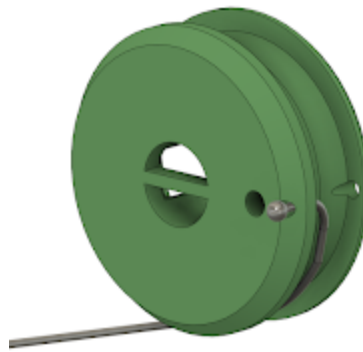

Figure 3.7: Connected string with String Spool (Green) loose end of string threaded through it and knotted.
9. Tie a knot on the loose end of the string on the outside of the Spool so the spool and string are now connected (Figure 3.7).